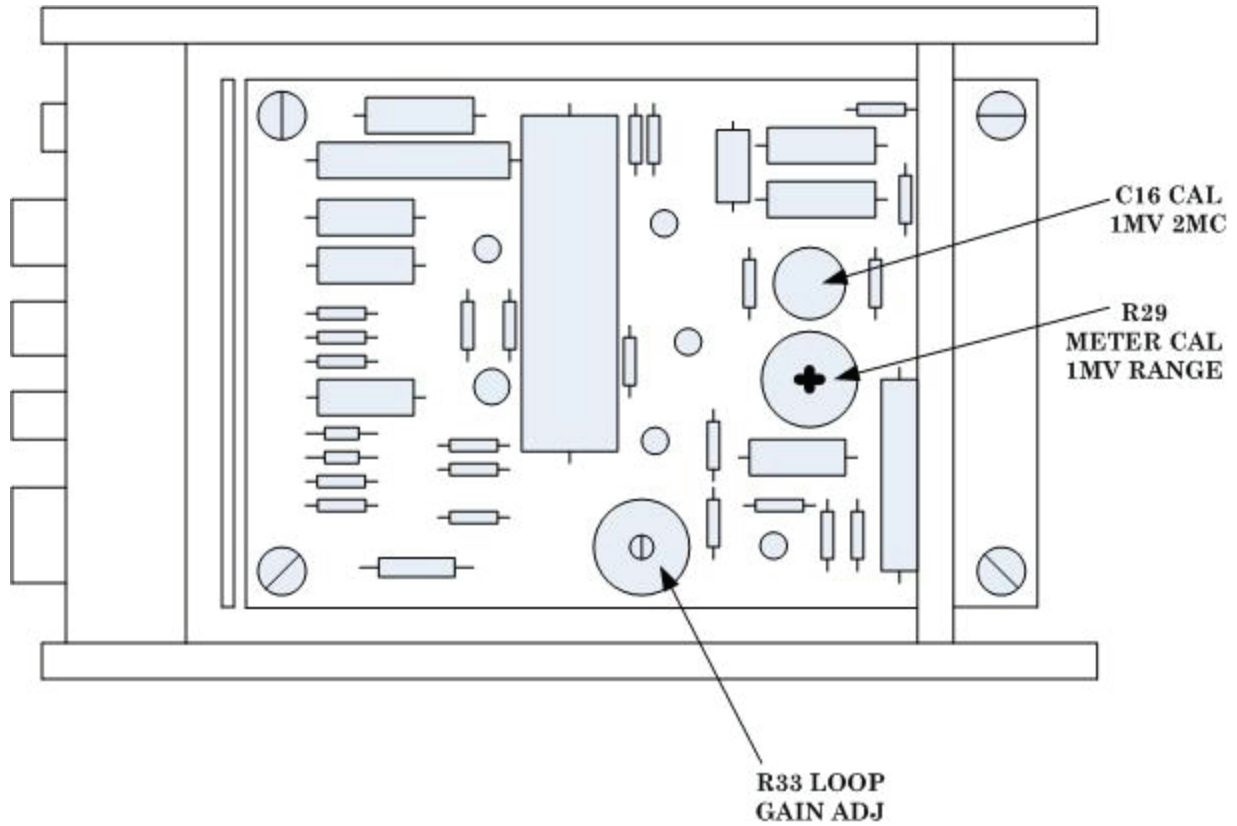
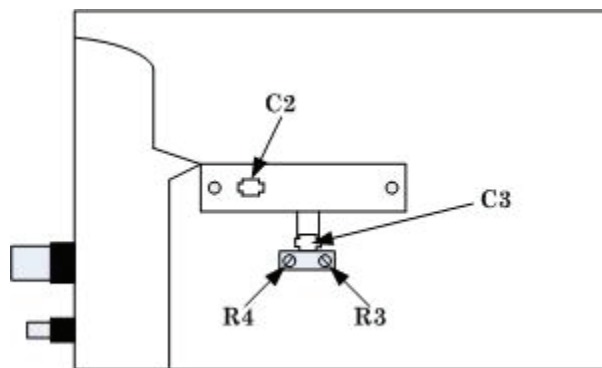

Figure 1. Voltmeter - top view
Figure 2. Voltmeter - right side view.
- (1) Connect the divider to the calibrator output and TI input. Adjust calibrator output for 1.000 V, 400 Hz.
- (2) Adjust R29 METER CAL 1MV RANGE (fig. 1) until TI meter indicates 1 on **0-to-1** scale (R).
- (3) Adjust calibrator output for 100 mV, 400 Hz.
- (4) Adjust R3 (fig. 2) until TI meter indicates 1 on **0-to-1** scale (R).
- (5) Adjust calibrator output for 30 V, 400 Hz.
- (6) Adjust R4 (fig. 2) until meter indicates 3 on **0-to-3** scale (R).
- (1) Adjust C16 CAL 1MV 2MC (fig. 1) and calibrator until calibrator **Error** = indicates within ± 2 percent at 1 MHz and within ± 5 percent at 2 MHz (R).
- (2) Adjust R33 LOOP GAIN ADJ (fig. 1) and calibrator until calibrator **Error** = indicates within ± 2 percent between 300 kHz and 1 MHz (R).
(3) Set **RANGE VOLTS DB** switch to .1.
- (4) Adjust calibrator frequency for 400 Hz and output for an indication of **1** on TI meter **0-to-1** scale.
- (5) Press **NEW REF** pushbutton on calibrator.
- (6) Increase frequency to 300 kHz.
- (7) Adjust C2 (fig. 2) until TI indicates **1** on **0-to-1** scale (R).
- (1) Set calibrator to 9.4 V and 300 kHz.
- (2) Adjust C3 (fig. 2) for a 9.4 V indication on TI (R).